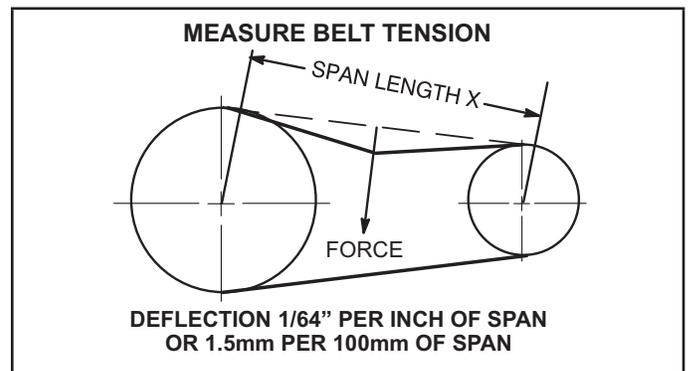

FIGURE 10
The blower assembly is secured to a sliding frame which allows the blower motor to be pulled out of the unit. See figure 10.
- 1 - Measure span length X. See FIGURE 10.